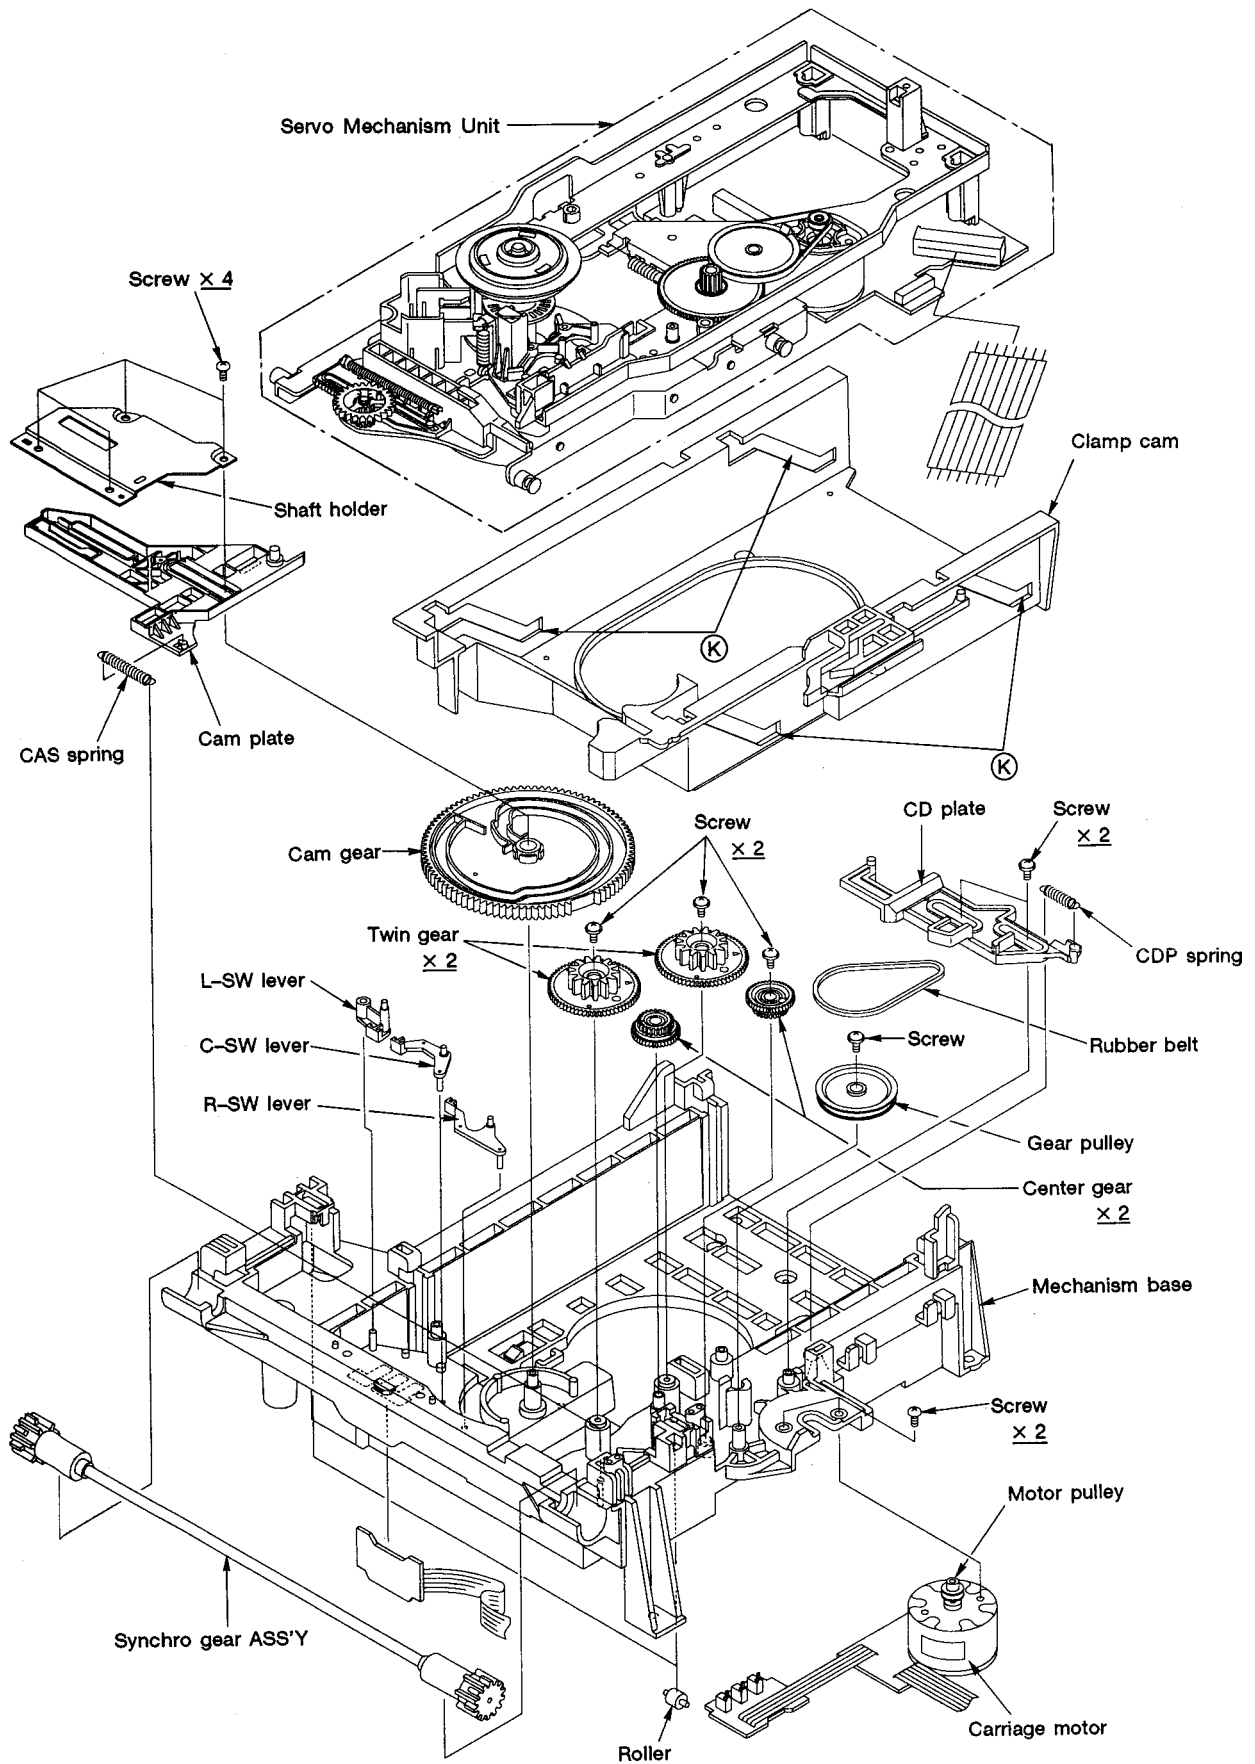
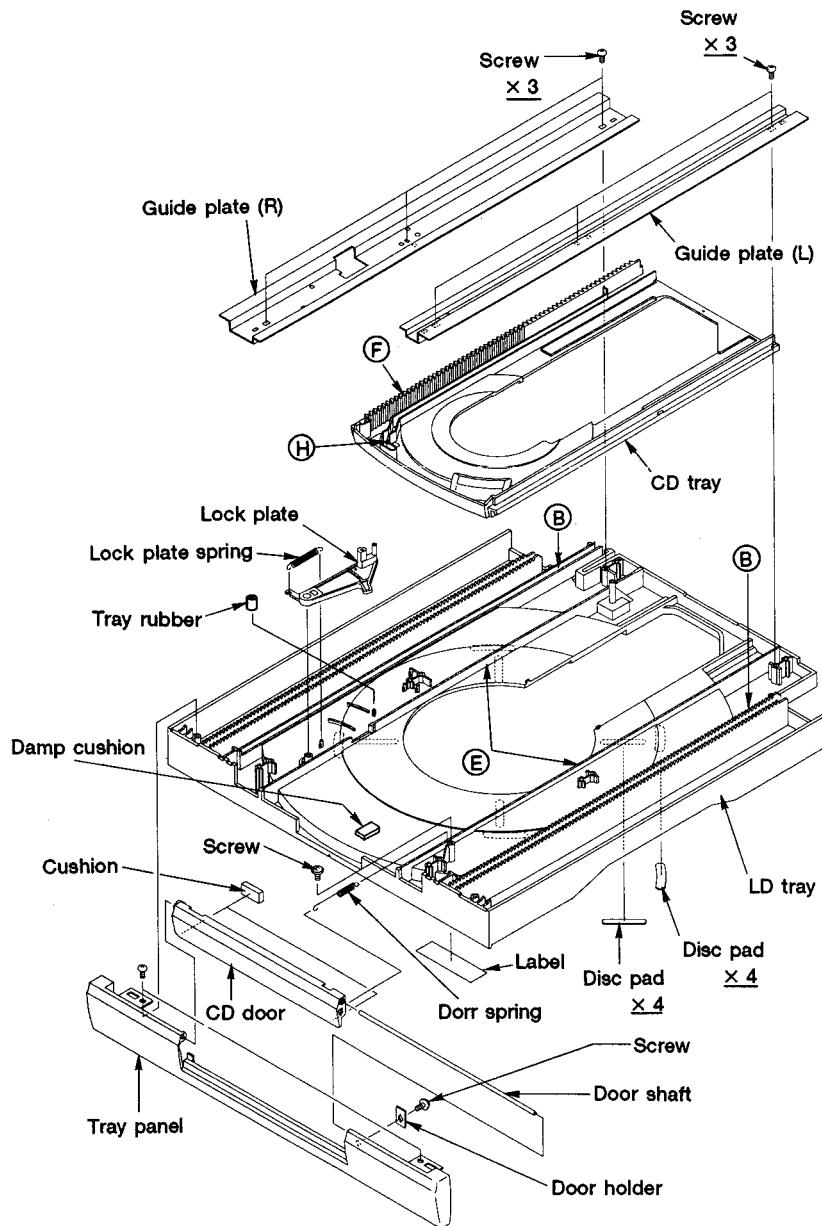
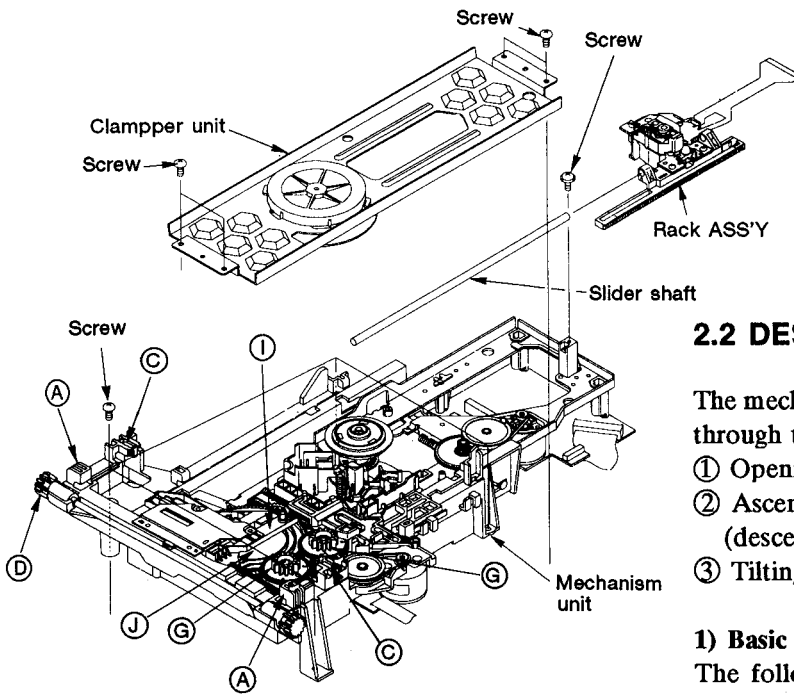
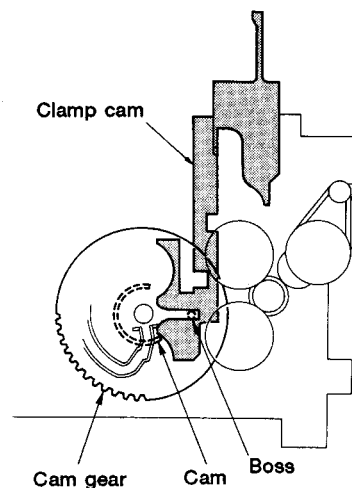

Fig. 2-2 Loading Mechanism unit
Fig. 2-4 Tray unit (Bottom view)
Fig. 2-5 Mechanical unit
Fig. 2-7
- ① Loading mechanism unit (Fig. 2-2)
- ③ Tray unit (Fig. 2-4)
#### ① Loading Mechanism Unit (Refer to Fig. 2-2)
By attaching the servo-mechanism unit and tray unit to the loading mechanism unit, the operations of the mechanism are completed without using the casing and other supporting components (Fig. 2-2) (excluding the operations of the clamper unit and clamp).
③ Tray Unit (Refer to Fig. 2-4 and Fig. 2-5)
As a support system to the tray unit, two protruding portions ① (Fig. 2-5) are located on the front, left of the mechanism base, and a cam groove ② (Fig. 2-4) is located on the bottom side for the left/right movements
of the LD tray. Rollers ③ (Fig. 2-5) are located on the left and right of the mechanism base, and a synchro gear assembly ④ exists for the up/down movements of the LD tray. The synchro gear assembly ensures left/right synchronization. As for the CD tray, a protruding rib ⑤ (Fig. 2-4) is located on the bottom side of the LD tray for the left/right movements, while guide plates are located on the left and right of the rib for the up/down movements.
**① Loading the Tray**
While the rack gear ⑥ (Fig. 2-4) and twin gear ⑦ (Fig. 2-5) the bottom side of the CD tray are engaged, the cam gear ⑩ is engaged with the twin gear ③ by moving the cam plate ① through the cam ④ (Fig.2-4) on the bottom side of the CD tray. (The rack gear on the bottom side of the CD tray is separated from the twin gear.)
**② Ascending of the Servo-Mechanism Unit**
The clamp cam is moved towards the rear by engaging the cam and boss on the back side of the cam gear to the clamp cam (Fig. 2-7). The servo-mechanism assembly ascends through the cam ⑫ (Fig. 2-2) on the clamp cam.